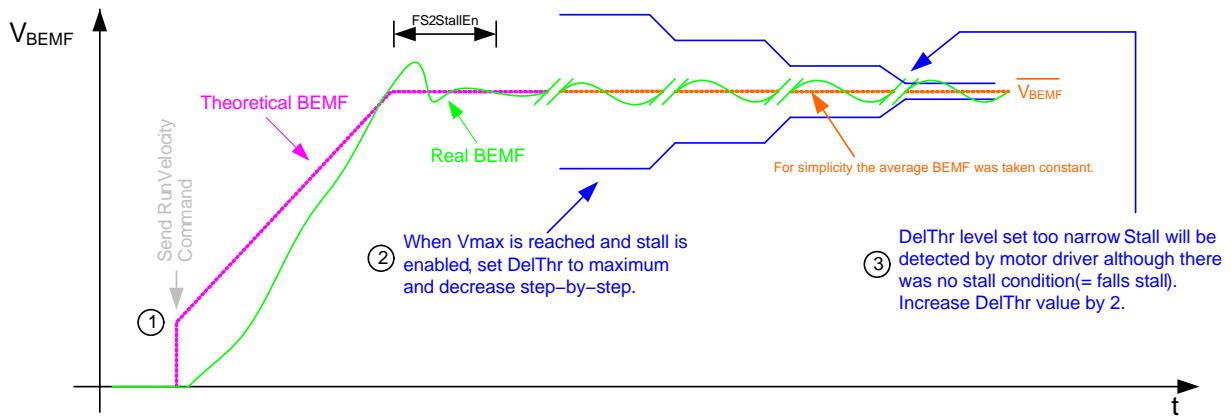

Figure 38. Defining DelThr for a Free Running Motor (Not Applicable for the NCV70627)
Step 4a: When spinning at maximum velocity (V_{max}), set DelThr to the maximum value. If the motor is still rotating, decrease DelThr. Do this until the motor stalls without hitting an end position (= falls stall). If falls stall is detected, the DelThr value is set too narrow. Increase the (hexadecimal) value by 2 (if possible) to have a good DelThr setting. See also Figure 38.